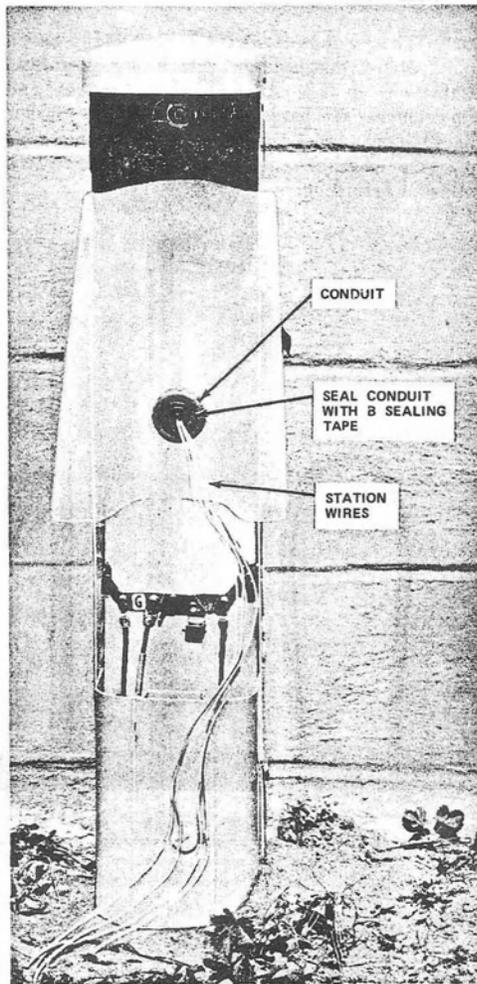

Fig. 13—PC6/48 Cable Closure—Wall Mounted
*When the knockouts in the top or back of the closure are required for cable or wire entrance, remove knockout by striking from inside of closure. Seal these openings with aerial entrance cap or B caulking compound respectively. If closure is mounted on combustible wall, place metallic conduit from the knockout through the wall (Fig. 13).*